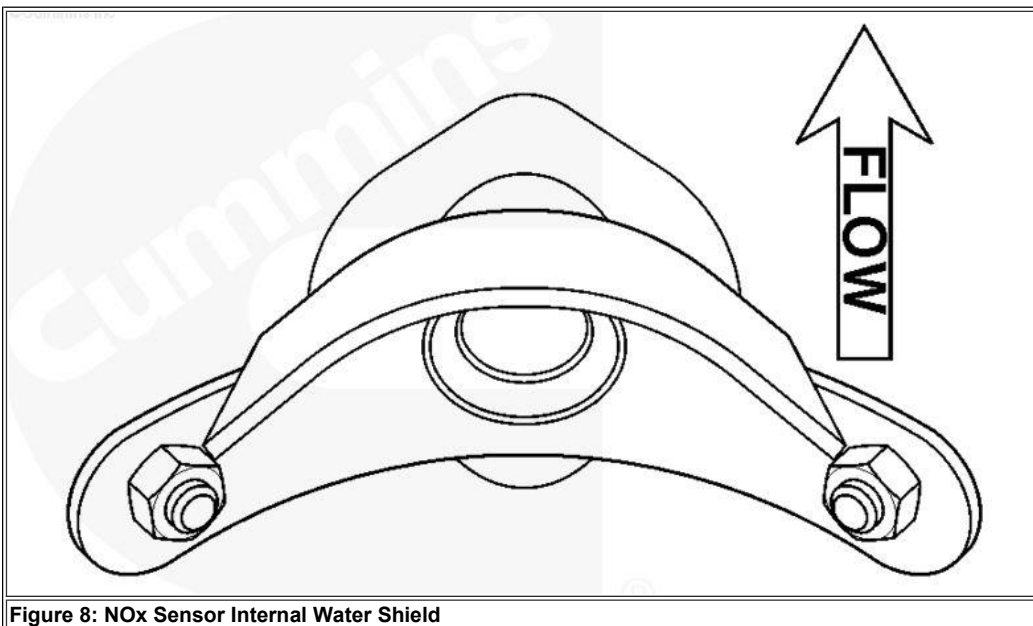

Figure 8: NOx Sensor Internal Water Shield
1. Orient aftertreatment outlet NOx sensor internal water shield towards aftertreatment SCR catalyst outlet. See illustration in Figure 8 with exhaust flow direction arrow.